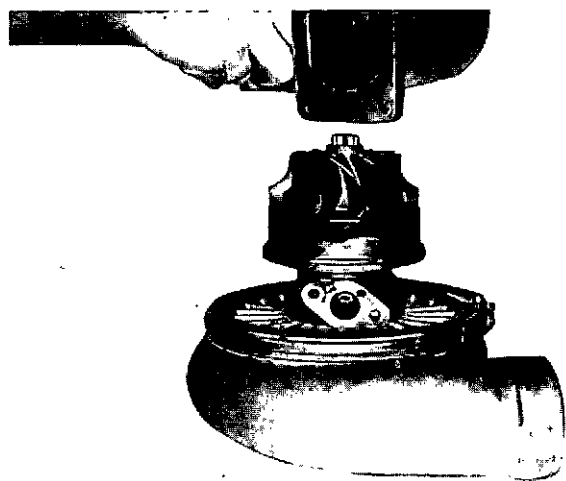
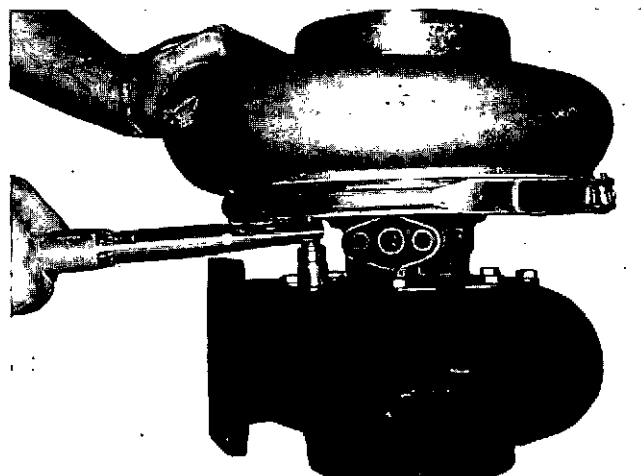

Fig. 5-39, (TA41). Installing the turbine housing
Fig. 5-40, (TA43). Torquing the turbine housing capscrews
14. Position the turbine housings to the center housing, Fig. 5-39. Align the marks. Install the clamps, lockplates and bolts. Coat the threads of the bolts with an anti-seize compound or the equivalent. Torque to 100/110 in-lb [11.5/12.5 N•m], Fig. 5-40.